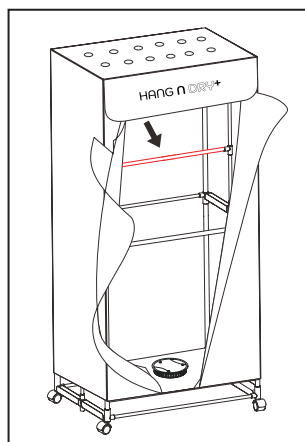

Fig. 13
11. Position the heater in the middle of the bottom module so it fits through the fabric cover. (Fig. 13).